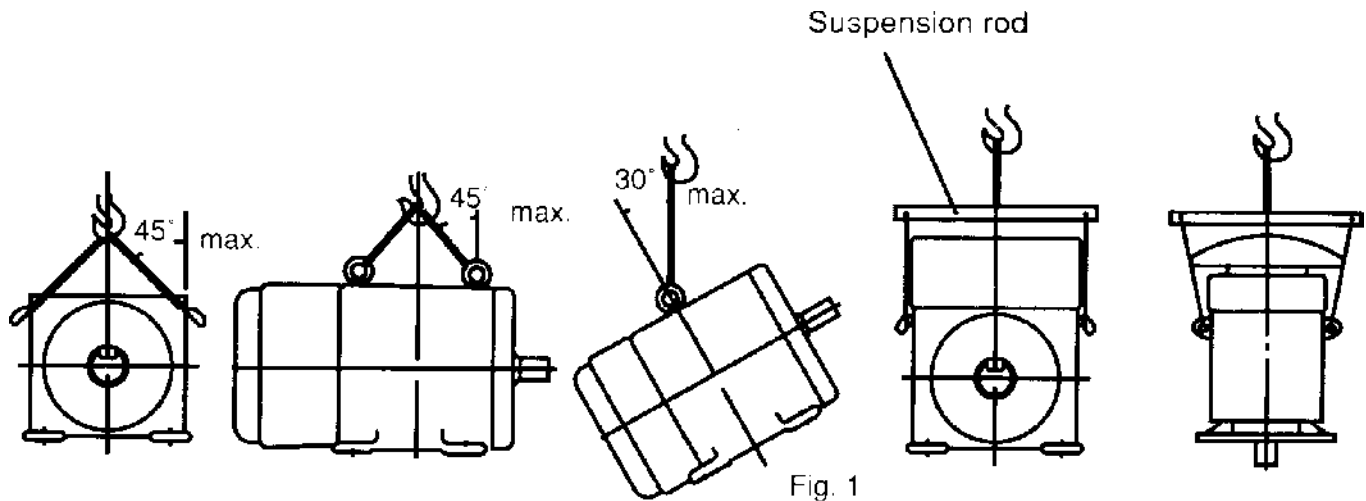

Fig. 1
**Do not twist the steel wires and make sure the eyebolts have been firmly screwed in and the sling angle is correct. See figure 1.**